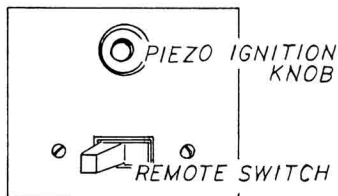

FIG. 10
6. Install the remote wall switch in a convenient location and route the 18 gauge millivolt wire through the opposite gas pipe supply line hole and into the control compartment or install directly into the control compartment beside the piezo ignition knob (Figs. 10, 11).